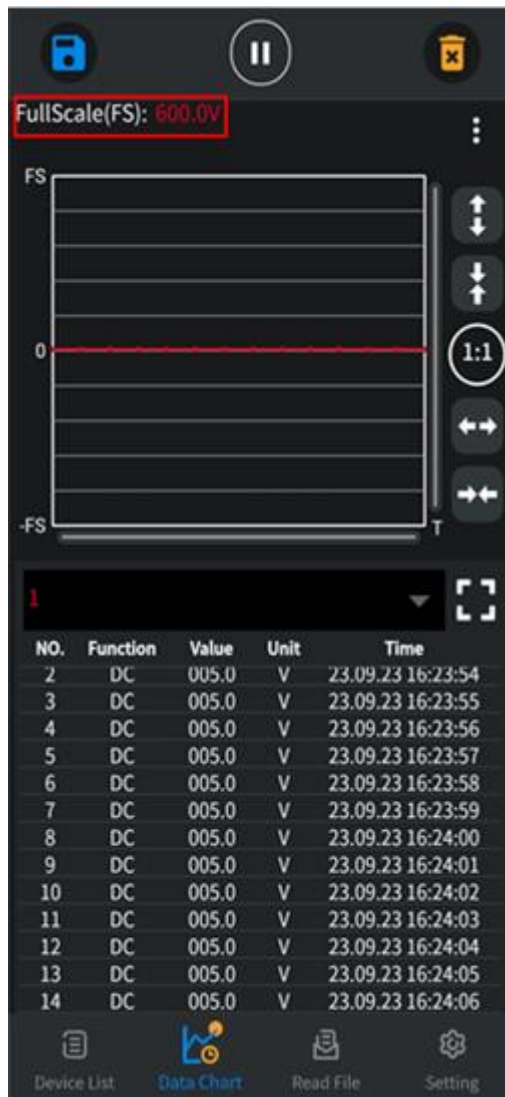

Figure 3
- Figure 3: The reading is 005.0V. Adding a decimal to the four digit of 6000 gives a full scale of 600.0V.